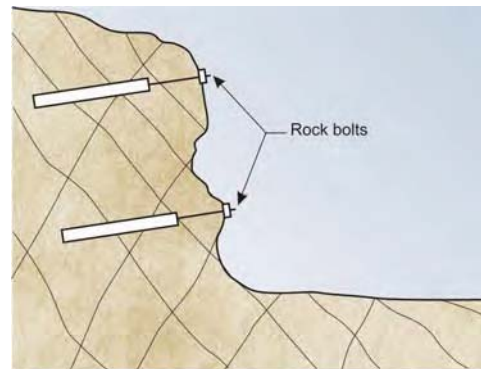

Figure 5
**Rock bolts and rock anchors** (Figure 5) - can be installed in the ground to improve its strength and prevent individual blocks from falling. Rock bolts are usually tightened using a torque wrench, whilst rock anchors carry higher loads and require jacking. Both can be designed to be "permanent" using stainless steel, or sheathing, to inhibit corrosion, but the cost can be up to 10 times that of the "temporary" alternative. You should inspect rock bolts and rock anchors for signs of water seepage, rusting and deterioration around the heads at least once every 5 years. If you notice any of these warning signs, have them checked by a geotechnical practitioner. It is recommended that you keep copies of design drawings and maintenance records (GeoGuide LR11) for the anchors on your site and pass them on to the new owner should you sell.